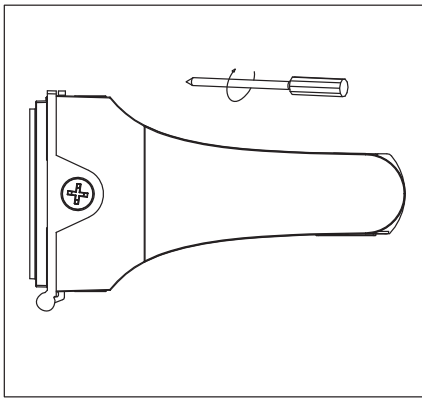

Figure 10
Step 7: Well organize the line and tighten the screws of the lamp base ((Figure 10 & Figure 11)